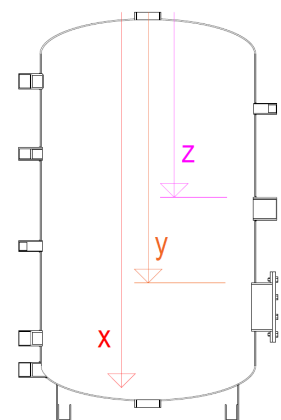

Figure 4: Representative drawing of GLE 200 showing suitable anode lengths based on installed immersion components.
- Some tank types or installations, such as those in plantrooms with limited clearance above the hot water tanks, may be compatible with a flexible chain type anode that hangs vertically down inside the vessel from the topmost connection. This type of anode chain can be cut to a suitable length to suit the particular tank and system within which it is installed. It is important in such cases to ensure that such anodes do not make contact with any installed electrical immersion heaters within the tank vessel. With reference to Figure 4: